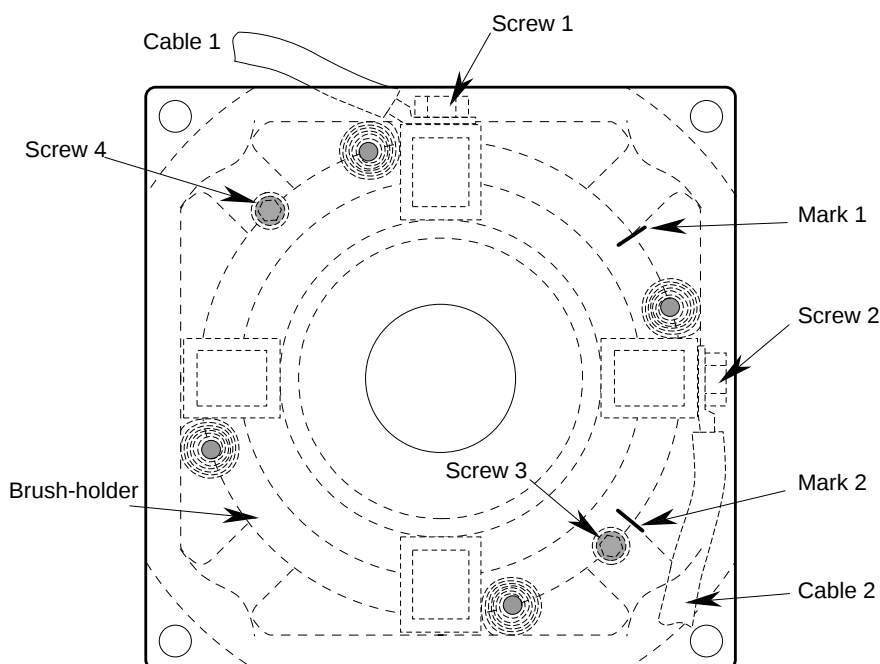

Fig. 10
- Replace the cover (53) or the brush-holder (160) on the commutator side, and the two supporting washers.
- First replace the commutator armature (3) in the stator (1) taking care not to knock the commutator against the stator poles.
- Fix the NDE bearing cover (53) or the brush-holder (160) in place.
- Reassemble the DE flange (5), replace the DE cover (33).
- Replace the brush-holder (149) on the labels (see figure 10). If the armature is being replaced the adjustment to neutral position must be checked (see section 6 of manual 1596).
2. If the motor is force cooled (FV) on the commutator side, dismantle the FV (LSK 1122 to 1604) and the inspection doors B, D or A.
3. Two labels (counter-sunk on the brush-holder) locate the brush-holder in relation to the flange (see fig. 10). These two labels should be set opposite an inspection door B, D or A.